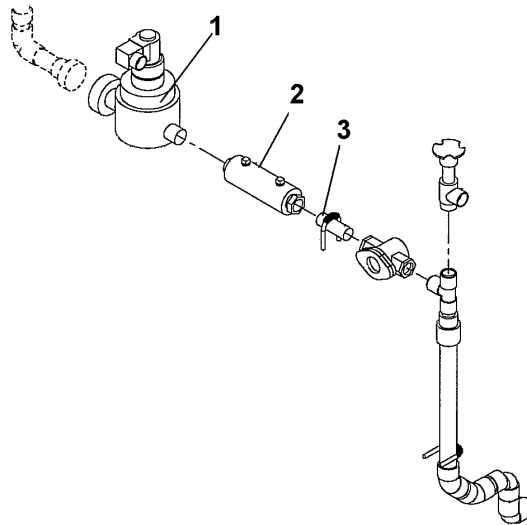

Figure 2. Flow Controller (5 GPM).
2. Remove flow controller (2) from the solenoid valve (1) and adapter (3). See Figure 2.